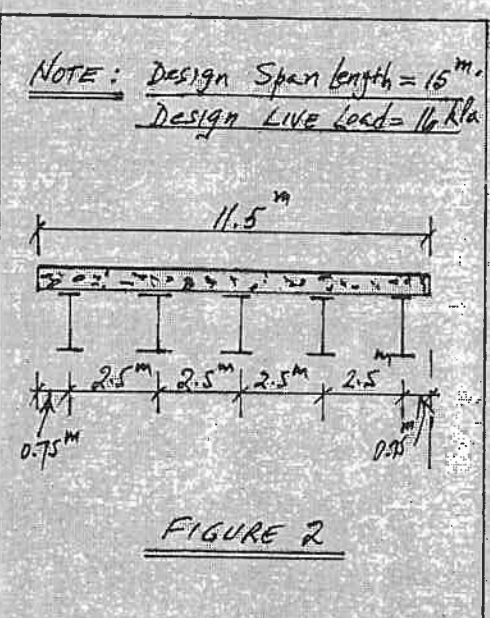

FIGURE 2
2. The cross-section of a heavily-loaded floor of a warehouse, Figure 2, is to be designed in a composite steel-reinforced concrete construction. Using unshored construction: